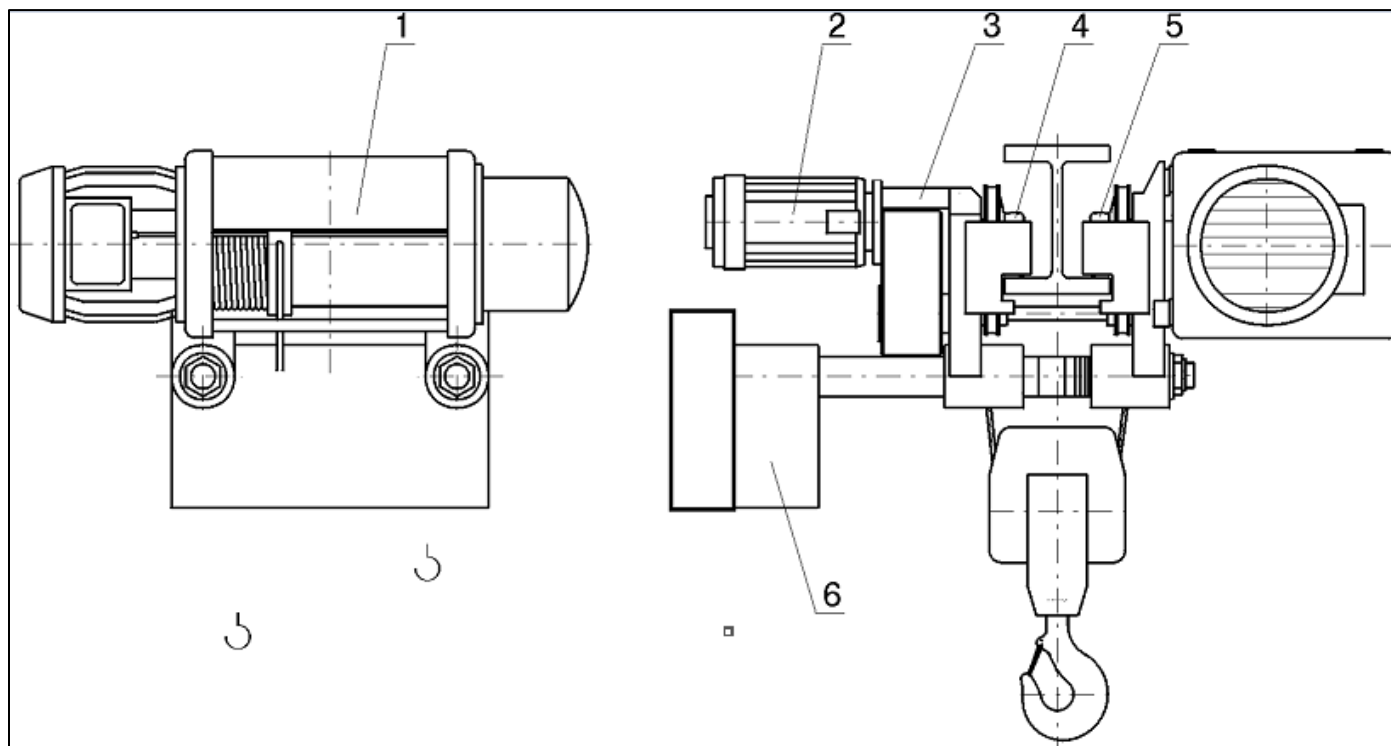

Figure 3.3.2
- Stiff suspension - 2/1 and 4/1, low headroom – the lifting mechanism is assembled laterally to the rail track. Thus decreasing of the headroom is achieved (Figure 3.3.2)
For the low headroom hoists (Figure 3.3.2) a counterweight box is provided (6).